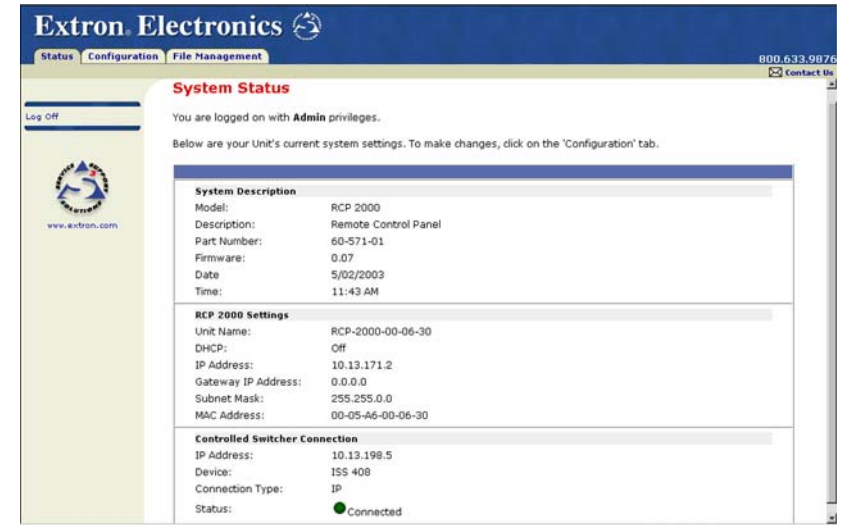

Figure 4-3 - System Status screen
3. Enter the appropriate password (if required). The System Status page opens (figure 4-3), showing the current IP address and other settings of the unit.
- 3. Enter the appropriate password (if required). The System Status page opens (figure 4-3), showing the current IP address and other settings of the unit.